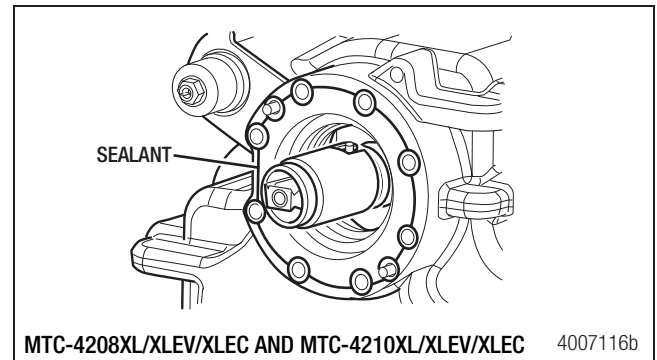

Figure 7.43
4. Apply a 0.125" (3.175 mm) bead of Loctite® 518 sealant around the rear housing face. Figure 7.43.